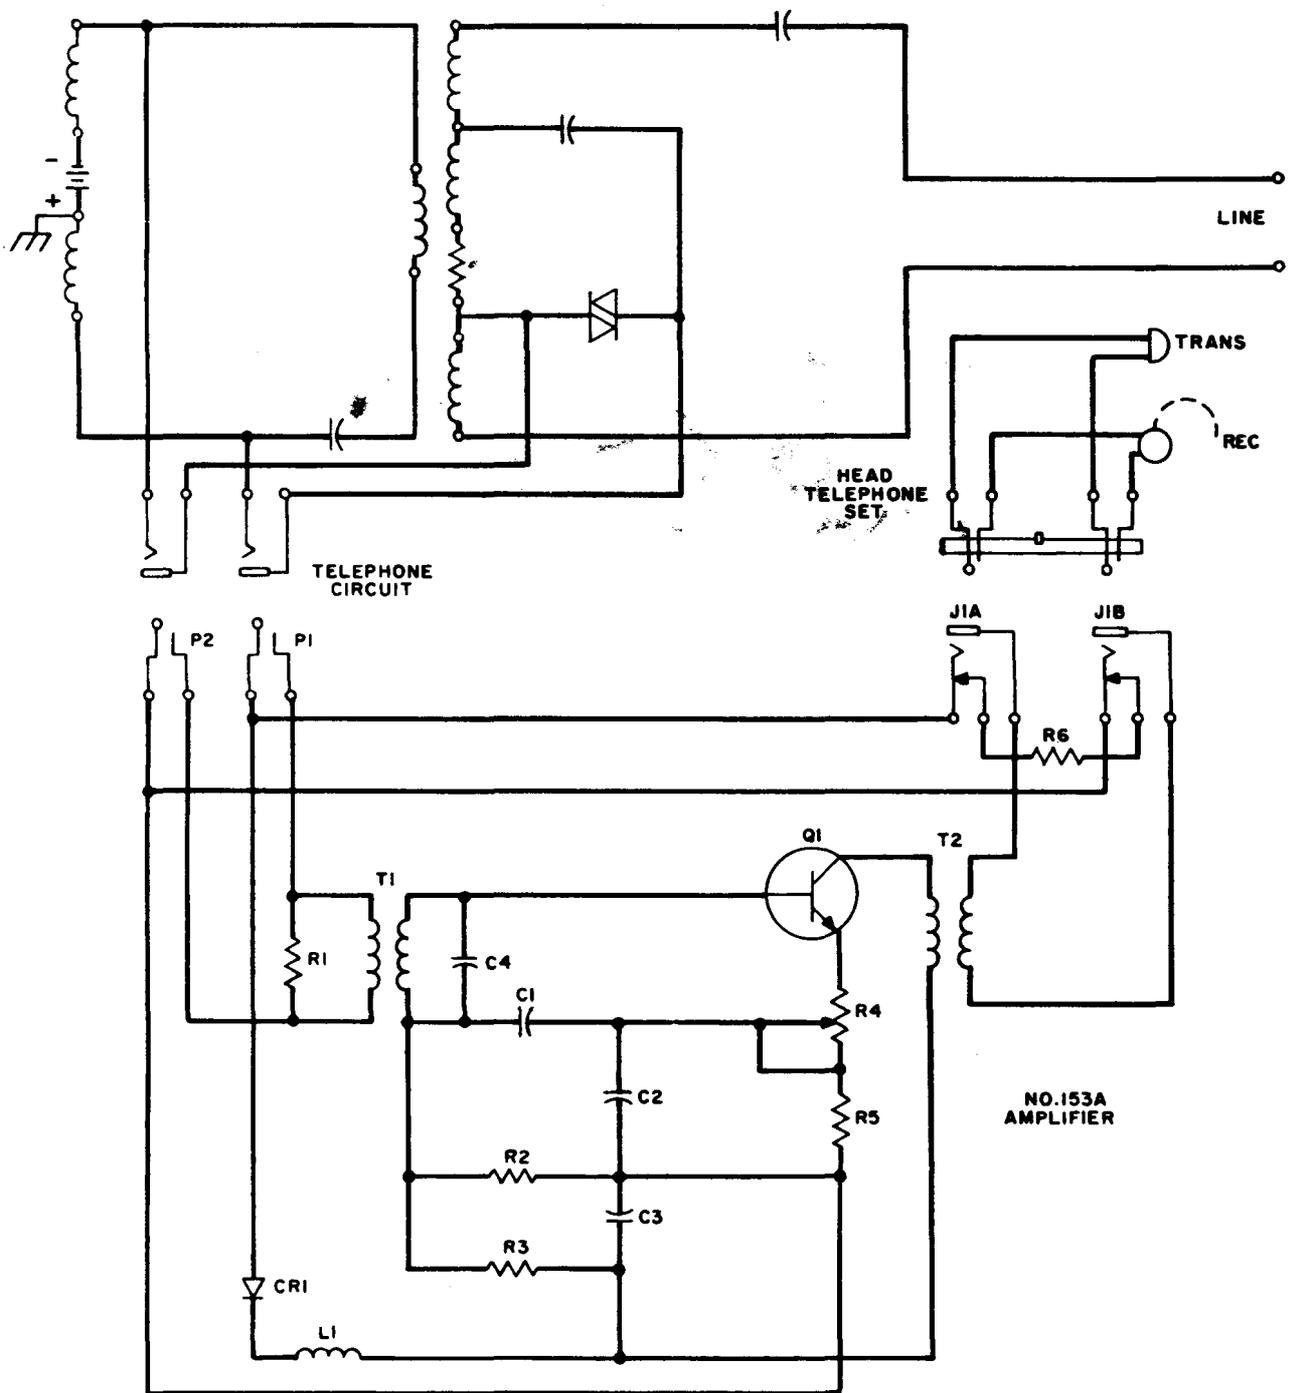

Fig. 4 - Schematic of Amplifier in Normal Telephone Circuit
3.01 In normal use the transmitter of the head telephone set is in parallel with the amplifier power leads and acts as a shunt to limit the battery supply to approximately 5 volts as shown in Fig. 4. To prevent damage to the transistor due to voltage overload, when the head telephone set is removed from the amplifier jacks, a 50-ohm shunt is bridged across the tips of the jacks. The insertion of this amplifier entails a loss of no more than 1db in the transmitting circuit.